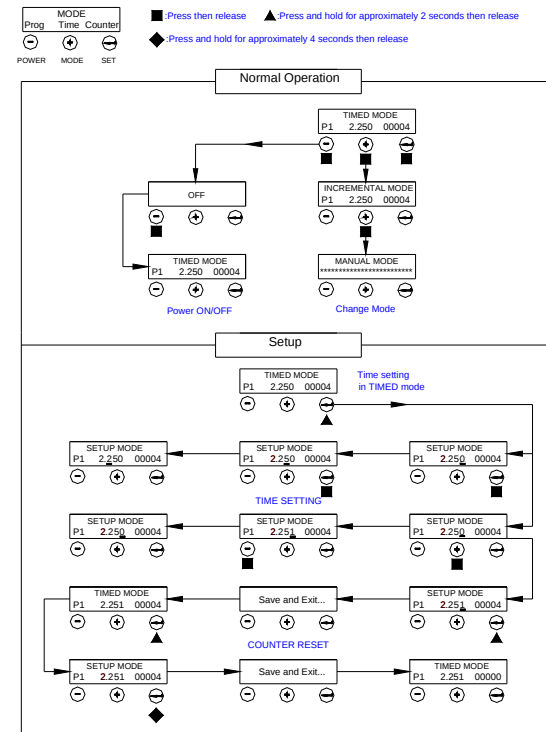

Fig 5.1
5.2 Dispense Cycle Setting – See Figure 5.1